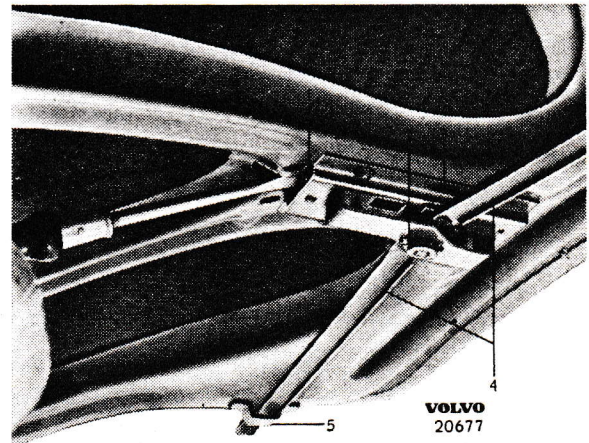

Fig. 15. Removing the lock cylinder.
If an even harder contact surface between the bottom and sides is desired against the rubber weatherstrip, then the outer ends of the lock links (4 Fig. 15) and the guides (5) are driven towards the edge slightly with a brass hammer.
The locking device is attached to the inner plate of the lid by means of four screws. The handle is retained by a cotter pin (2). The lock cylinder is held in place by means of a screw (1) which is accessible with a screw-driver from the underside of the lid. See Fig. 15.